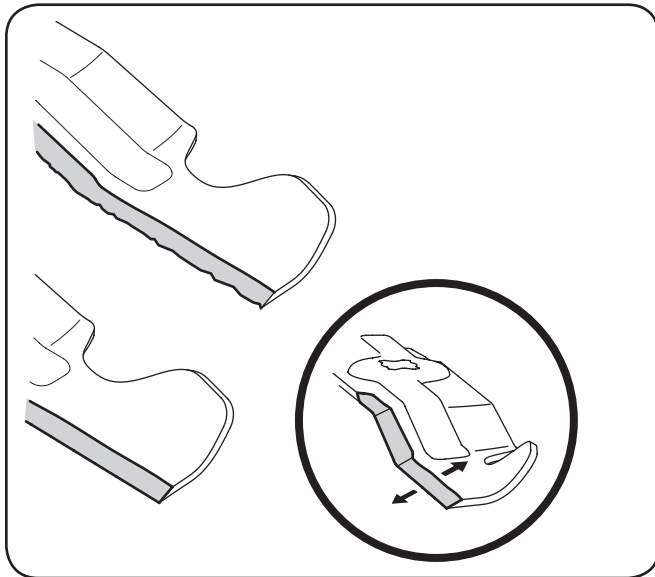

Figure 7-7
- To properly sharpen the cutting blades, remove equal amounts of metal from both ends of the blades along the cutting edges, parallel to the trailing edge, at a 25°- to 30° angle. Always grind each cutting blade edge equally to maintain proper blade balance. See Fig. 7-7.